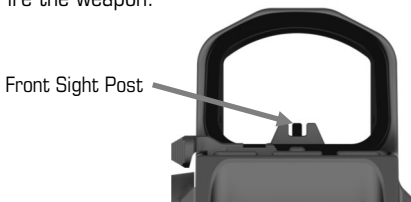

Figure 3.5-1 Iron Sights (Rear View)
- Step 3.)** While maintaining the alignment of the Iron Sights, as described above, aim so that the top of the center pin is aimed at the target (see Figure 3.5-1).